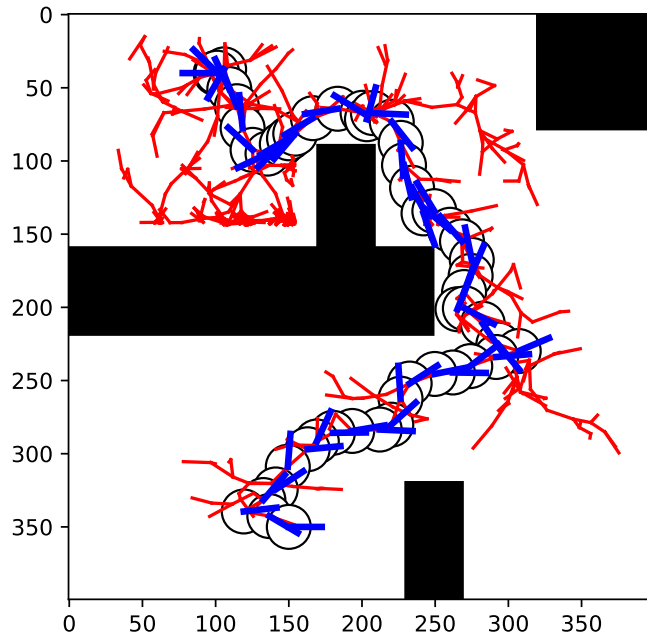

Figure 6: Example RRT solution of the non-holonomic car system.
- Bias the sampling to pick the goal with 5%, 20% probability. Report the performance (cost, time) and include at least one figure showing the final state of the tree for each value. Figure 6 shows an example solution tree found by RRT.